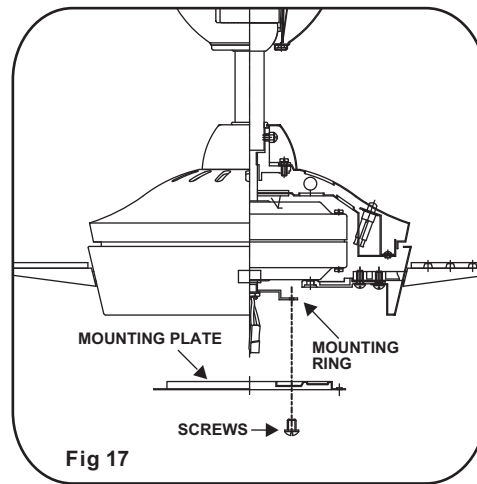

Fig 17
Step 2. Place the key holes from the mounting plate over the 2 screws previously loosened from the mounting ring, turn mounting plate until it locks in place at the narrow section of the key holes. Secure by tightening the 2 screws previously loosened and the one previously removed. (Fig. 17)